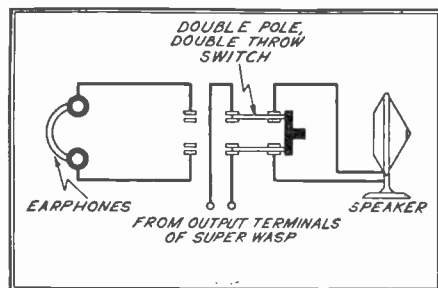

Figure 1: A simple changeover arrangement for the Super-Wasp.
3. A clever suggestion has been sent to us by Mr. B. Williams, of Washington, D. C. Fig. 1 shows the arrangement used with the Super-Wasp receiver for quickly changing over from